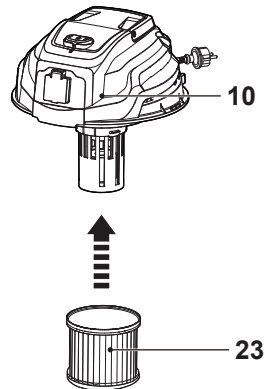

Fig. 8
- > Assemble the cartridge filter (23) onto the motor unit (10) (Fig. 8). Ensure the